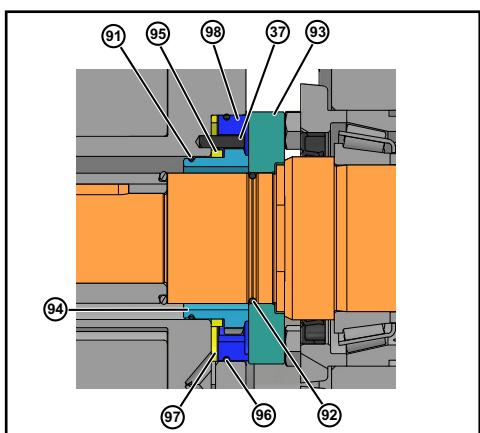

Figure 68 - Double Mechanical Seal
- If a double mechanical seal is used, install the outer wave spring (Figure 68, item 97) in the body and the outer O-ring (item 96) in the outer seal groove (item 98). Place the outer seal in the pump body around the inner seal, aligning the notches in the outer seal with the stop pins in the body.